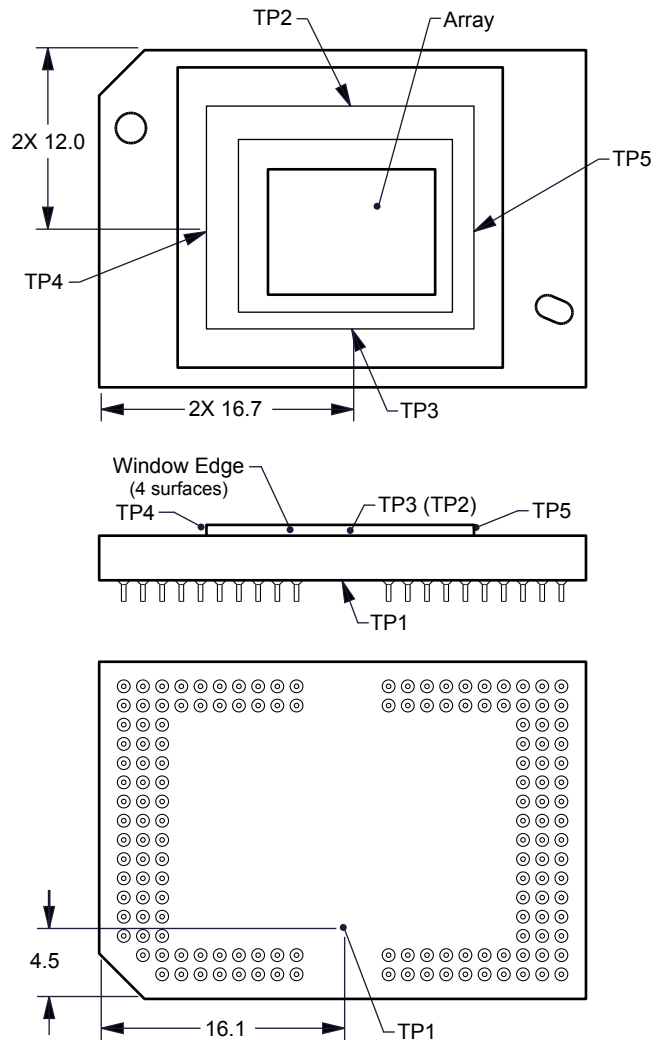

Figure 13. Thermal Test Point Location
Micromirror array temperature cannot be measured directly, therefore it must be computed analytically from measurement points on the outside of the package, the package thermal resistance, the electrical power, and the illumination heat load. The relationship between array temperature and the reference ceramic temperature (thermal test TP1 in Figure 13) is provided by the following equations:
- T_{CERAMIC} = Measured ceramic temperature (°C), TP1 location in Figure 13